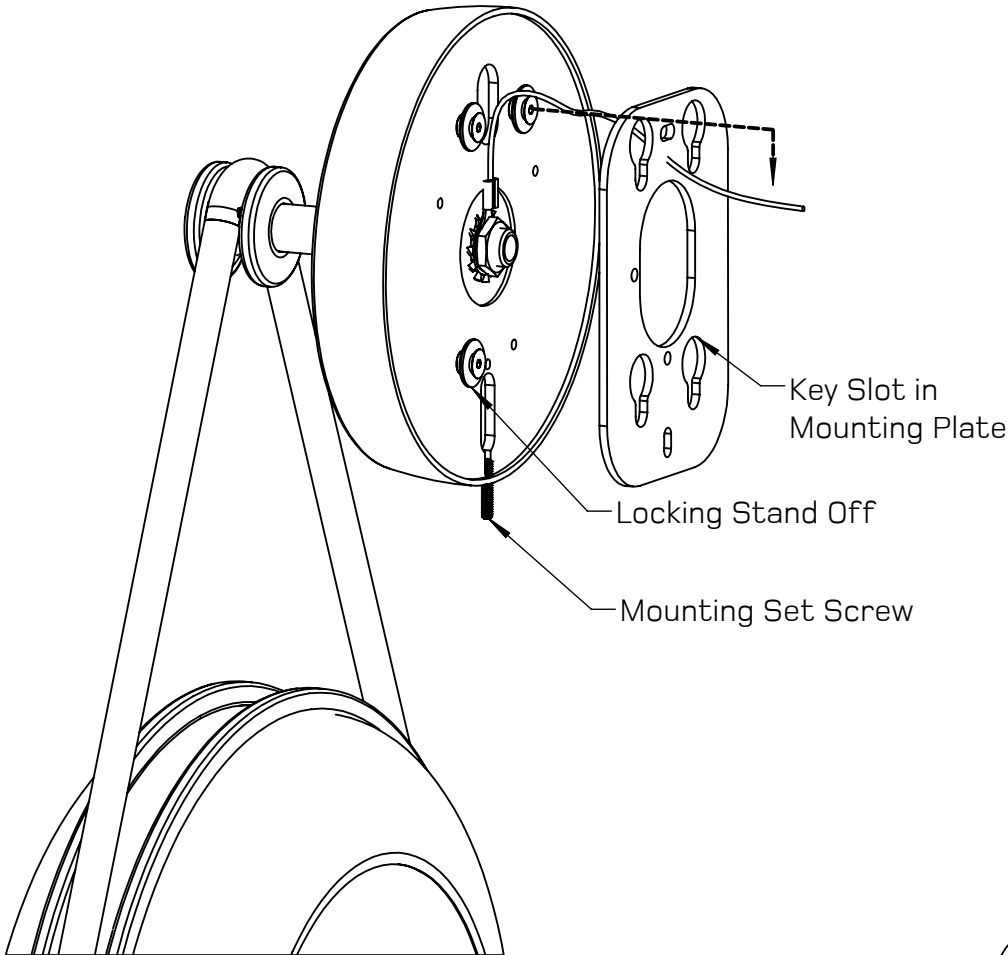

FIGURE A-4
8. Install fixture to mounting plate by aligning & inserting the locking stand-offs with the key slots in the mounting plate. Once inserted, slide down to secure. Ensure stand-offs on back plate are fully seated in key slots on mounting plate. See Figure A-4.